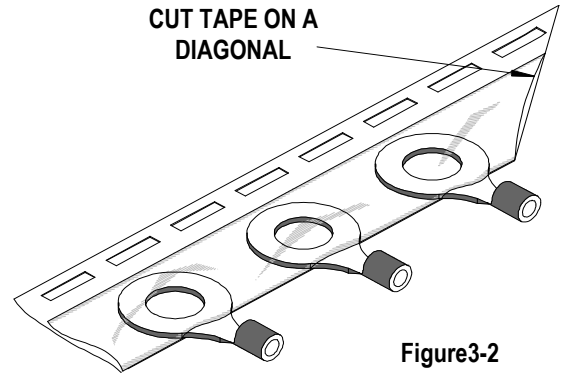

Figure3-2
1. Prepare the tape for loading. Use scissors to cut the tape on a diagonal. The diagonal cut must pass between the slots in the tape. See Figure 3-2.